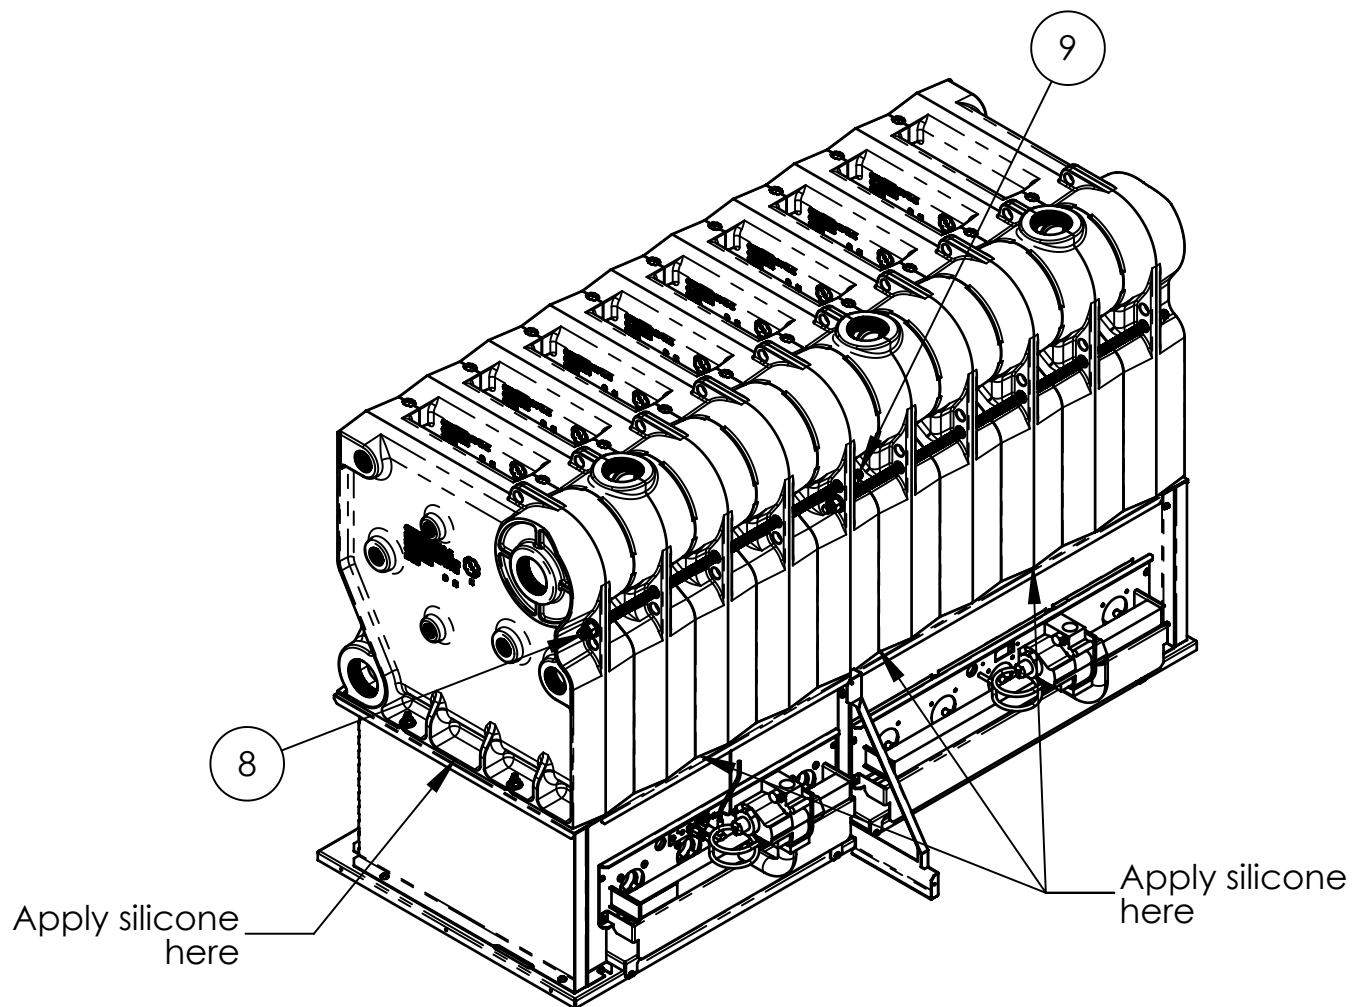

Figure 6-2: Split Base and Individual Sections
24. Apply provided SIL-BOND RTV 6500 to entire perimeter of base/section assembly joint. See Figure 6-2.